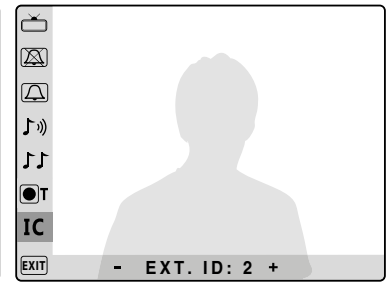

Fig. 4G
- To set the intercommunication among extensions in the same apartment (videophones with the same PHONE ID but with different EXT. ID) select an EXTENSION ID for this device from 1 to 9 (Fig.4G) by pressing the buttons  and . In stand-by mode, by pressing the button  one or more times you will be able to call the videophones with EXT. ID from 1 to 9 within the same apartment.